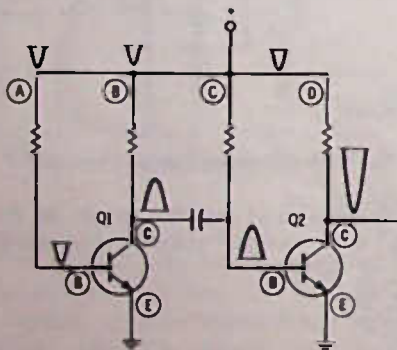

Fig. 14-18. Circuit for Question 10.
10. Fig. 14-18 is a two-stage audio amplifier showing why this circuit may oscillate on its own, if the supply line does not have sufficient filtering in it to remove all the signal. Note that by normal signal inversion in a common-emitter amplifier, a negative-going voltage to the base of Q1 becomes a larger positive-going voltage on the collector of Q1. This voltage is fed to the base of Q2 and at the collector of Q2 (inverted again) it is a large negative-going pulse. Without good filtering on the + supply line, some of this large negative-going voltage might be fed back on this line. It does nothing to the circuit except provide a bit of degenerative feedback for the first transistor, since the feedback from collector of Q2 is opposite in phase to the signal at the collector of Q1. But if it is fed back to the base of Q1, it is in-phase, reinforcing the signal already there, and the circuit may start to oscillate. The rate of oscillation may be slow or rapid, depending upon many factors in the circuit, such as how poor the supply-line filtering is, etc. One electrolytic on the supply line may be all that is necessary to eliminate this trouble; but, to be sure, the designer may put in a resistor in series with the supply line and then add a filter capacitor to ground. This is called a decoupling filter circuit. Where in Fig. 14-18 would you feel that a decoupling filter should be installed?
- A. Between (A) and (B)
- B. Between (B) and (C)
- C. Between (C) and (D)